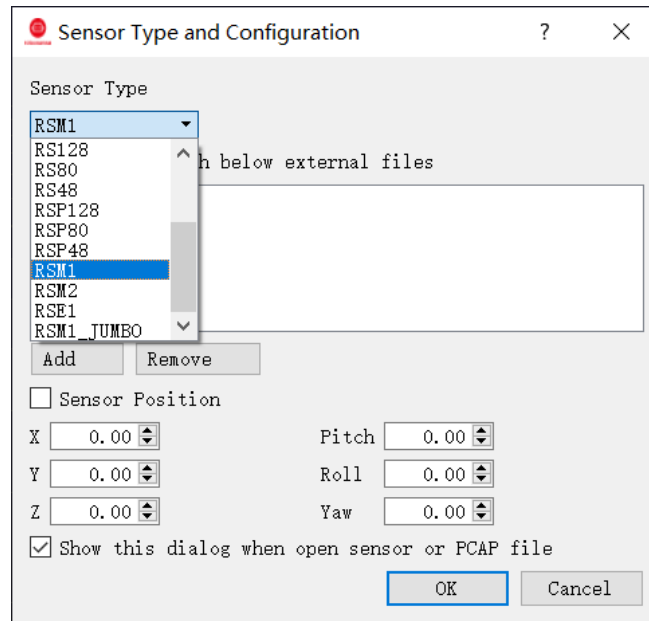

Figure A-2: Select the parameter configuration file of RS-LiDAR- M1
4. After finishing the above 3 steps, the dialogue box "**Sensor Type and Configuration**" shows up. Please Choose RSM1 in the Drop-Down menu to fit RS-LiDAR-M1P. In this dialogue box, the **Sensor Calibration** default contains the configuration folder named MEMSCorrectionFile_3V, directly click **Add** and then click the **OK** button (as shown in Fig A-2). The original point cloud data output from the RS-LiDAR-M1P is already calibrated point cloud data, therefore the value in this parameter file is void.